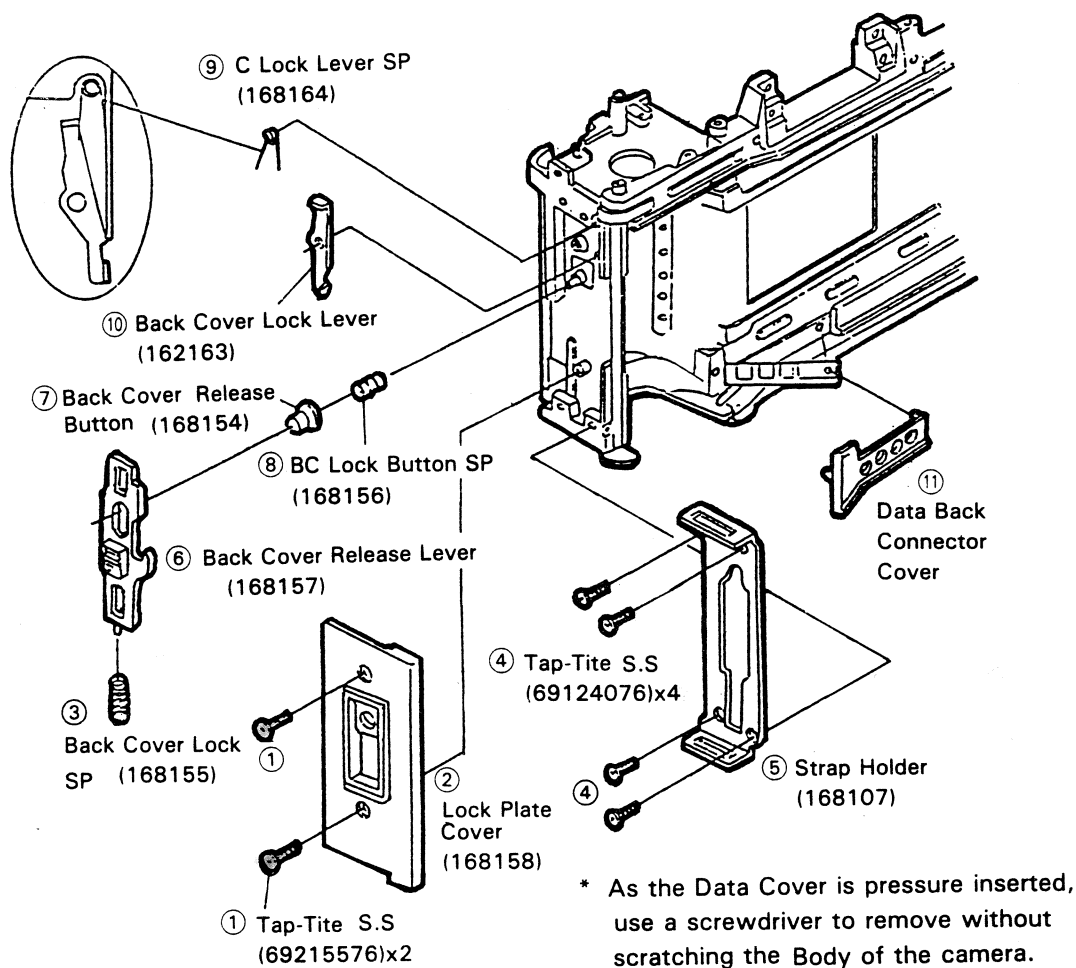

Fig. 33
(1) Remove the parts shown in Fig. 33 in the numerical order.